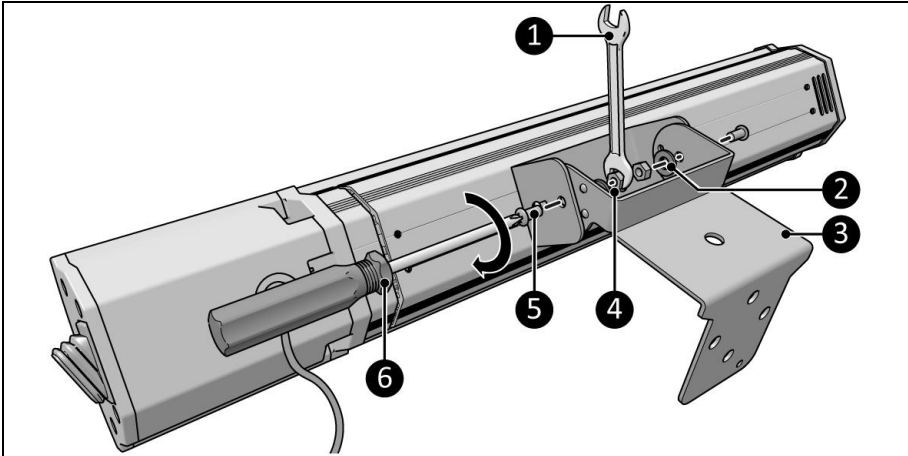

Figure 6
1. Lay the main body down on a steady surface (Figure 6).
2. Place the suspension bracket (Figure 6, pos. 3) between the device bracket.
3. Screw and tighten both sides using the large screws (Figure 6, pos. 5), the washers (Figure 6, pos. 2) and the nuts (Figure 6, pos. 4).